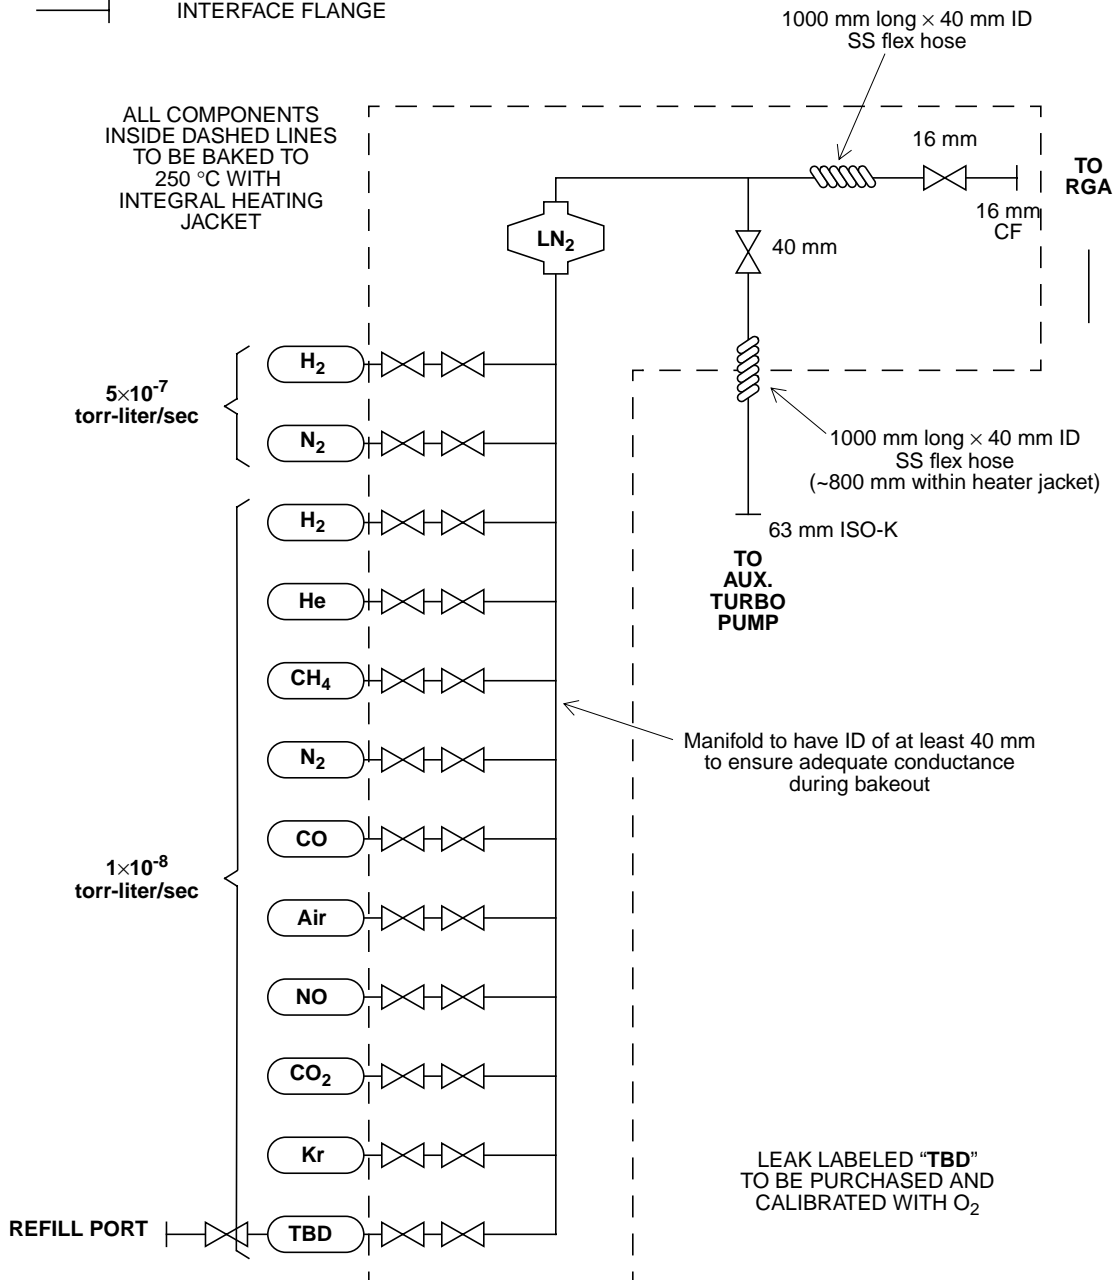

Figure 1: Calibrated Leak Assembly Schematic
**Description:** The Calibrated Leak Assembly (illustrated schematically in Fig. 1) will be used in conjunction with a high-sensitivity mass spectrometer/residual gas analyzer (RGA) attached to an ultra-high-vacuum (UHV) system to establish response calibration (using H2 and N2), mass scale (using Krypton) and gas cracking patterns for a variety of gas species relevant to the application. There is provision for adding a presently unspecified gas by filling the bottle labeled "TBD" in Fig. 1 (it is initially filled with O2).
After the assembly is connected to a metal valve on the RGA system, the manifold is baked out at 250 °C while being pumped with an auxiliary turbo pump. All parts exposed to the vacuum envelope on the UHV side of the calibrated leak orifices must reach the bake temperature during this operation, and all of the valves indicated in Fig. 1 are open during this bake. During normal operation, the baked and clean manifold is exposed to the RGA through a metal valve on that assembly. The liquid nitrogen trap is filled to trap residual water vapor from the gas sources. Redundant valves at each leak accommodate valve failures which would otherwise require time-consuming disassembly and rebake. The assembly will be moved among multiple RGA systems and must operate satisfactorily in an uncontrolled (outdoors) environment.
**Calibrated leaks:** All calibrated leaks shall be Vacuum Technology Inc. Lifetime™ CL-7 and CL-8 series with leak rates as indicated in Fig.1. The leak labeled "TBD" in Fig. 1 shall be purchased as an O2 leak with the MFV metal fill valve special option.